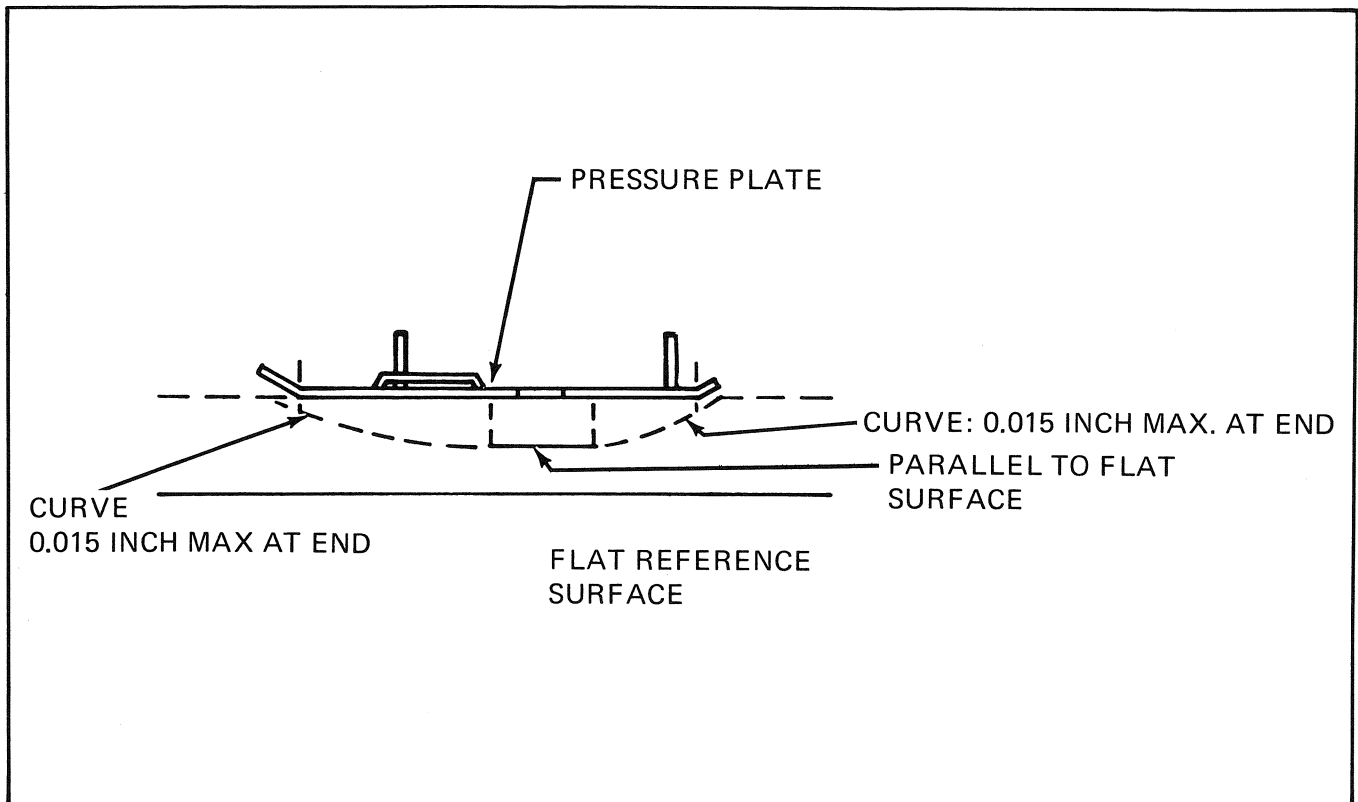

Fig. 4-13
3. Form the pressure plate until it conforms to the profile illustrated in figure 4-13.